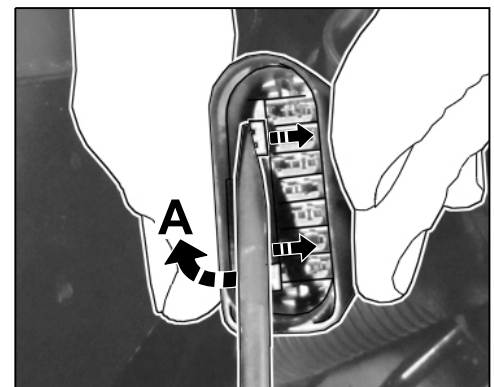

Figure 28
Insert a screwdriver between the housing and secondary lock and press it to the left (⇒ *Figure 28-A*).
- 3.4.6 Lock secondary lock on connector X031.1A1 (⇒ *Figure 28*).